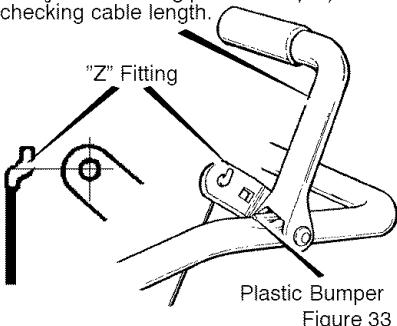

Figure 33
**To check for correct adjustment, unhook "Z" fitting at clutch lever (see Figure 33).**
11. Install the "Z" **hook** to the **traction drive lever** (see Figure 33).
5. Disconnect the "Z" **fitting** from the **drive lever** (see Figure 33).